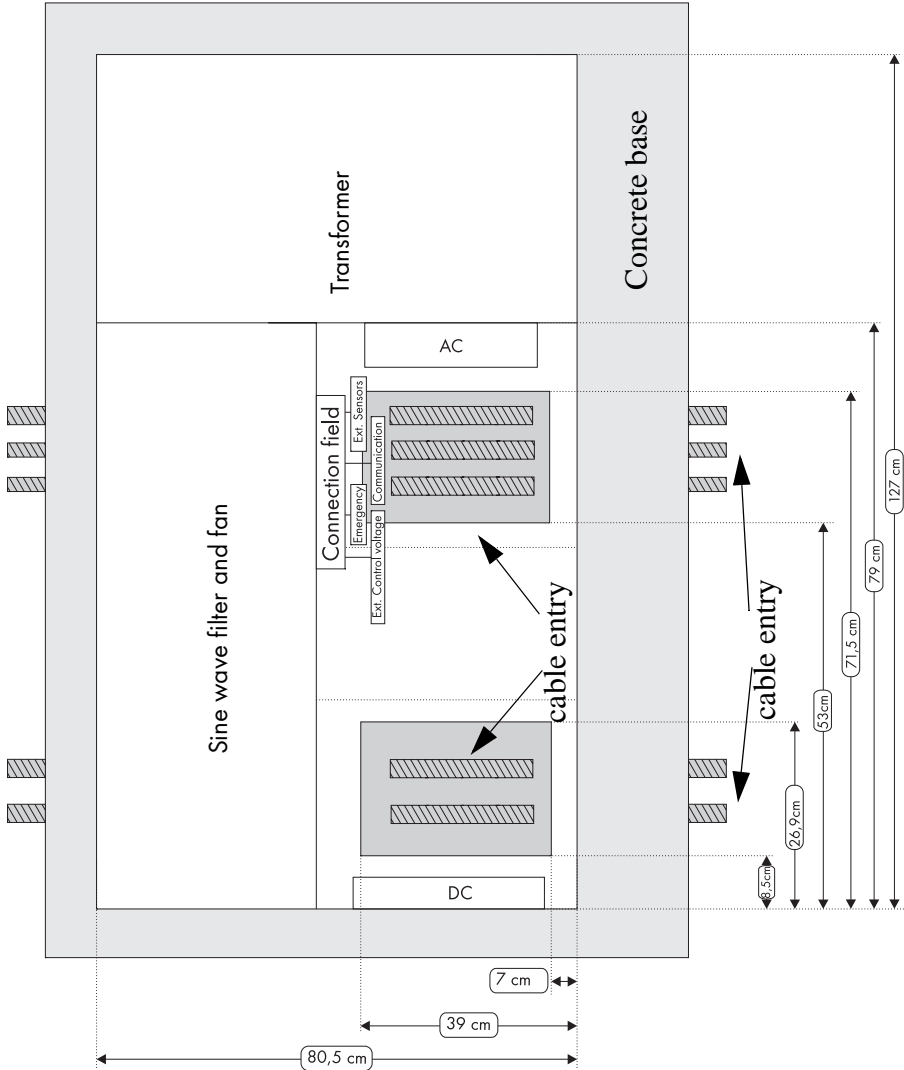

Figure 5.3: Different cable feeds from the front and from the rear; the cable must be routed into the foundation plate from below
*The cable routing through the removable base plates in the Sunny Central is displayed in **figure 5.3**.*